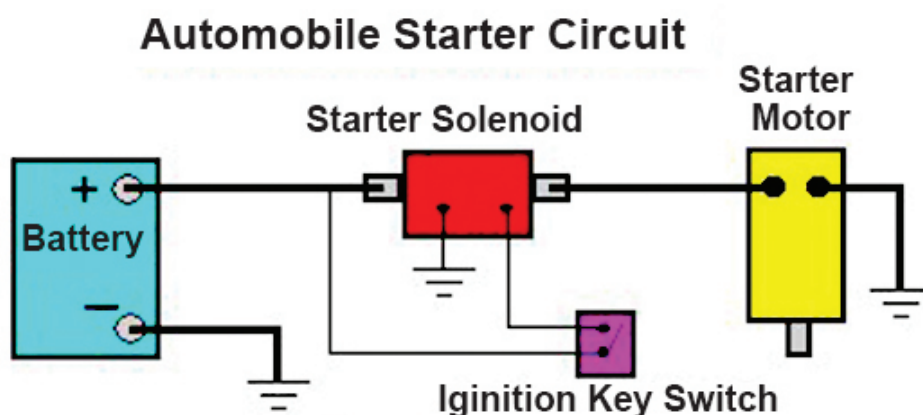

Fig.6.2.17: Starting Circuit
*Circuit Diagrams of Charging System and Starting system are already shown at Fig. 6.2.1 and Fig. 6.2.17. of this chapter.*